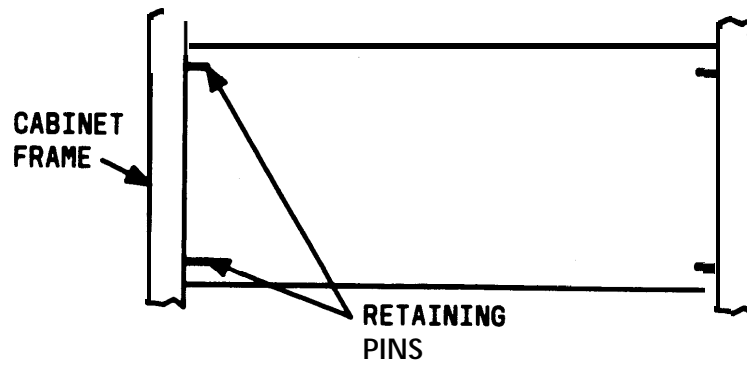

Figure 27. Blank Carrier Panel (Rear View)
2. Remove blank port carrier panel by pushing outward on panel from rear of cabinet until the panel clears the four retaining pins on cabinet frame (Figure 27).